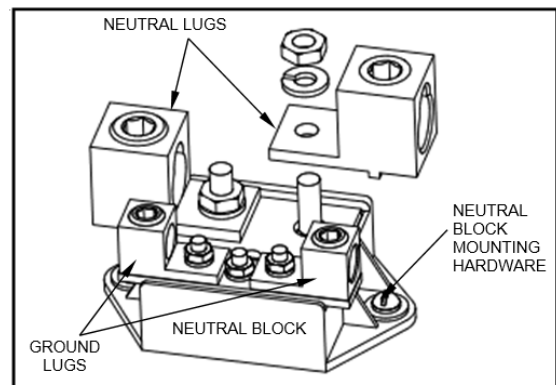

Figure 1 – Neutral Kit
This kit is CSA listed for use as an insulated groundable neutral and may be installed in 400Amp type TH3365C and TH3365RC safety switches. Each kit contains the following parts (see Figure 1):
- Qty (2) ground lugs
- Qty (2) neutral lugs and mounting hardware
- Bonding screw (not shown in Figure 1)
Step 3. Mount line and load lugs to neutral block as shown in Figure 1 using hardware provided. Torque fasteners to 200-250 in-lbs.